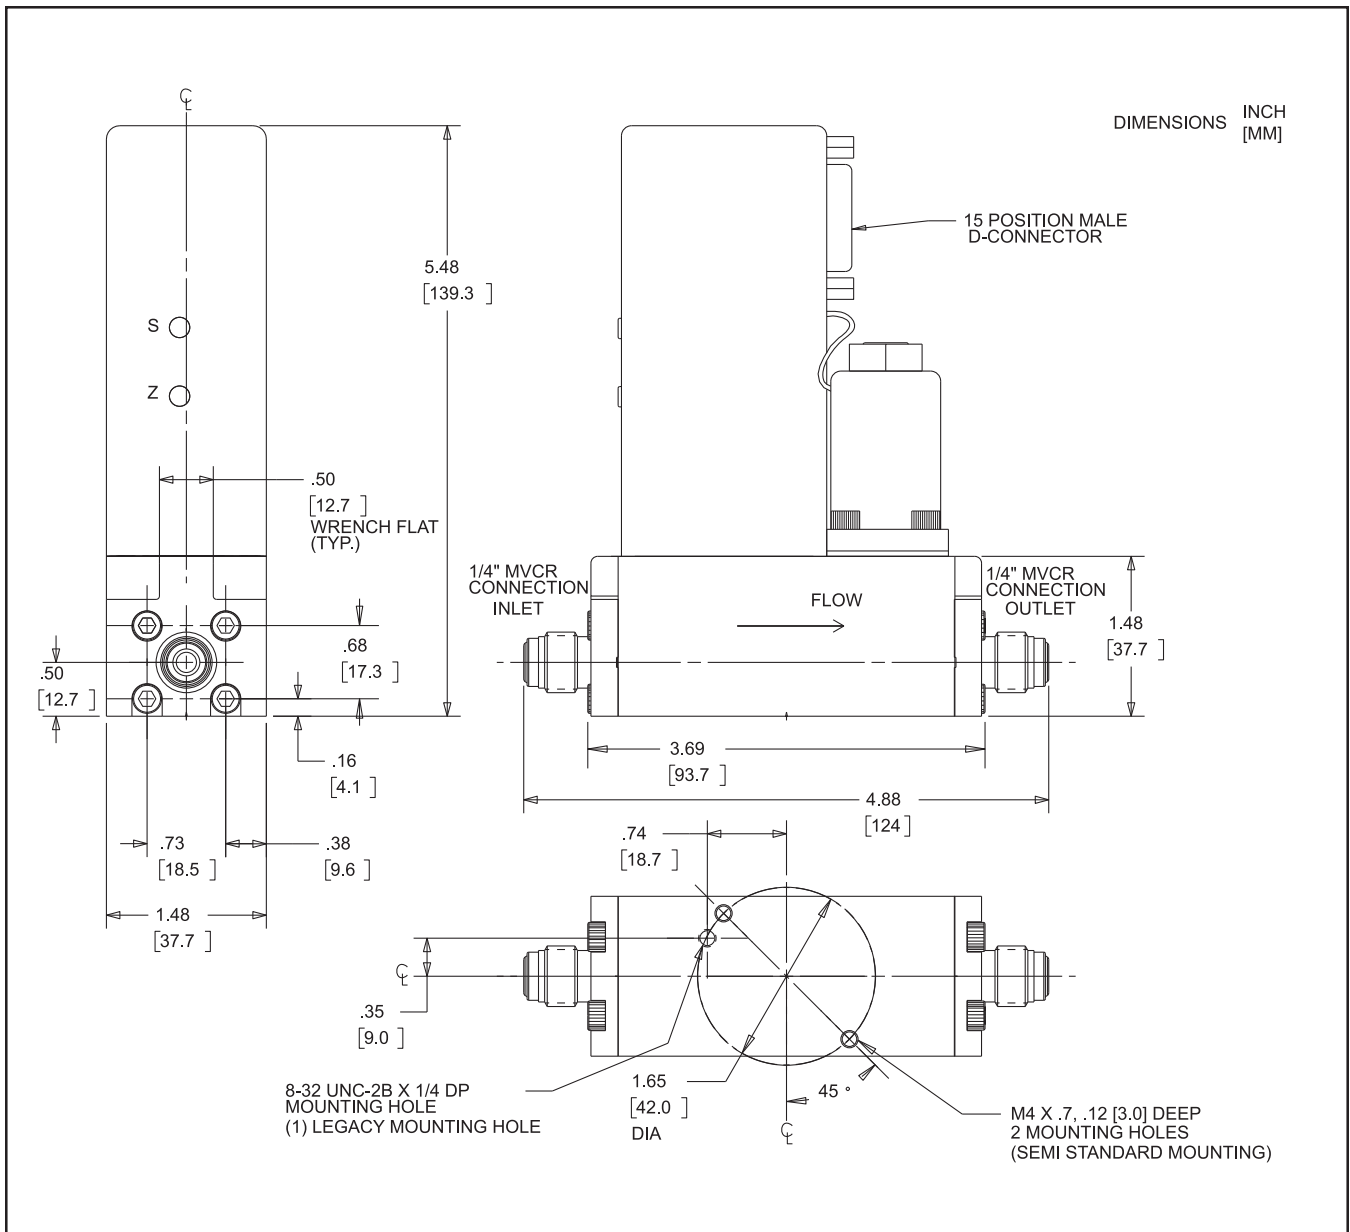

Figure 1-1 MFC/MFM Dimensional Drawing for Model 5964/5850EM with D-Connector and VCR Fittings
- Fast response control permits rapid gas settling times with minimal over/undershoot. Refer to Figure 1-1.
Refer to Figures 1-1 thru 1-4